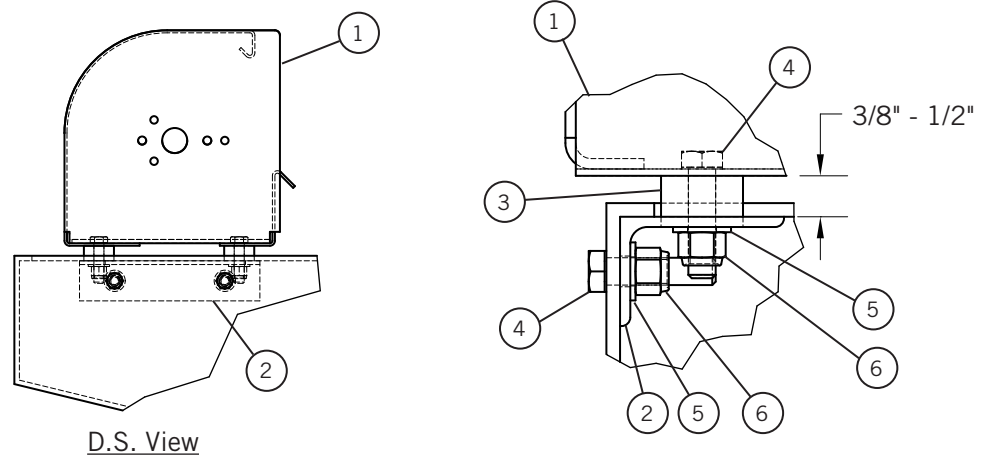

Figure 7-1
- 3) **Figure 7-1.** Attach mounting bracket (2) to cab shield using 1/2-13 x 2 hex bolt (4), 1/2 flat washer (5), and 1/2-13 nylon hex nut (6).
- 4) **Figure 7-1.** Set housing with rubber bushings (3) onto mounting bracket (2) and fasten securely through slotted holes using 1/2-13 x 2 hex bolt (4), 1/2 flat washer (5), and 1/2-13 nylon hex nut (6). Rubber bushings should compress to about 3/8" to 1/2".